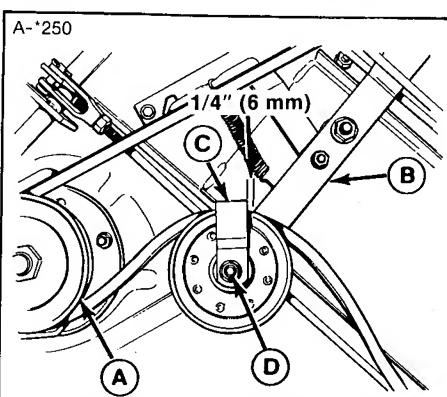

Figure 25. Mower Belt Replacement
2. Loosen the belt guide (C, figure 25) on the idler pulley.
5. Reposition the belt guide on the idler pulley (figure 25). Before tightening the nut (D), position the belt guide so it is $1/4$ inch (6 mm) behind the idler arm (B) when viewed from above (figure 25). Hold the belt guide when tightening nut.